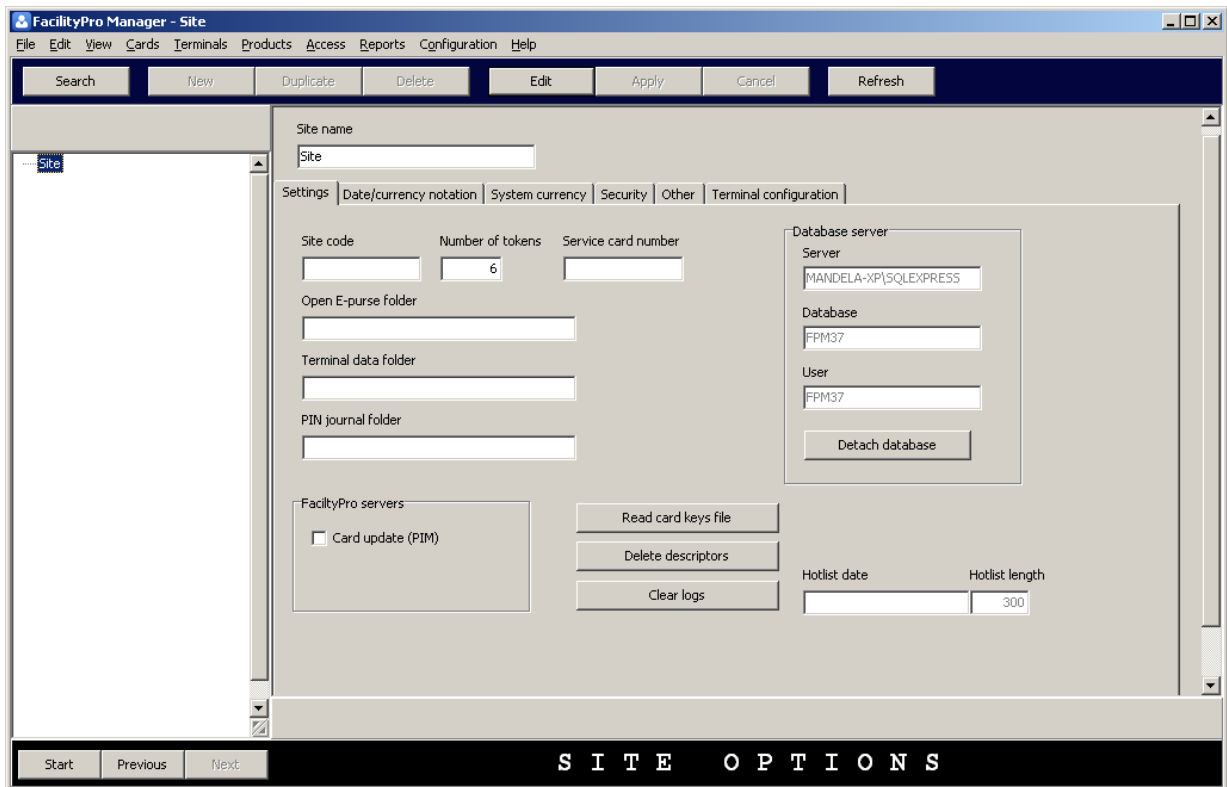

Figure 8-1 The tab 'Settings' of the site options data screen
The fields of the data entry area of the site options data screen (when the tab 'Settings' is active, Figure 8-1) are listed and explained below. The fields marked \* must be assigned a value:
2. Choose **Site options**. You will see the site options data screen (Figure 8-1). (The tab 'Settings' will normally be active by default, if another tab is active, click the tab 'Settings'.)
2. Choose **Site options**. You will see the site options data screen (Figure 8-1). (The tab 'Settings' will normally be active by default, if another tab is active, click the tab 'Settings').